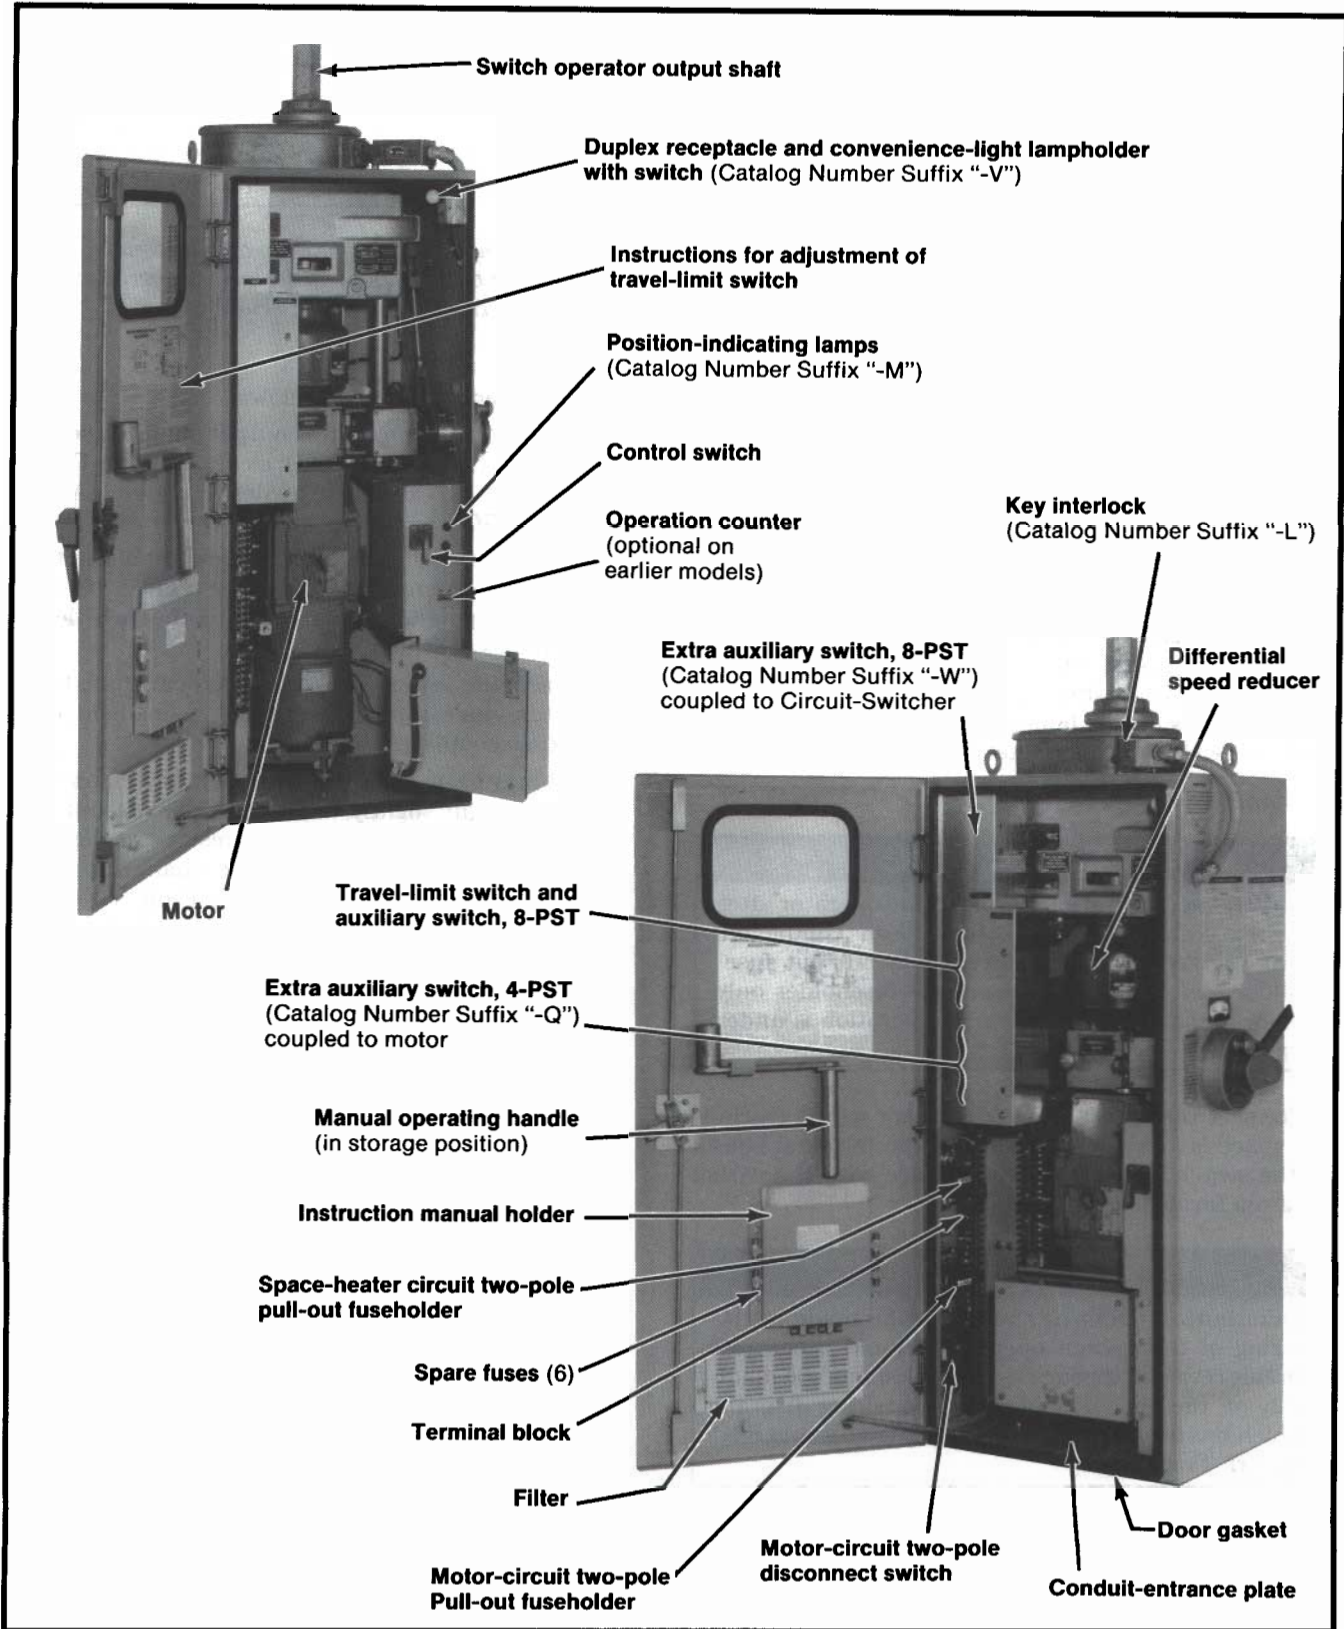
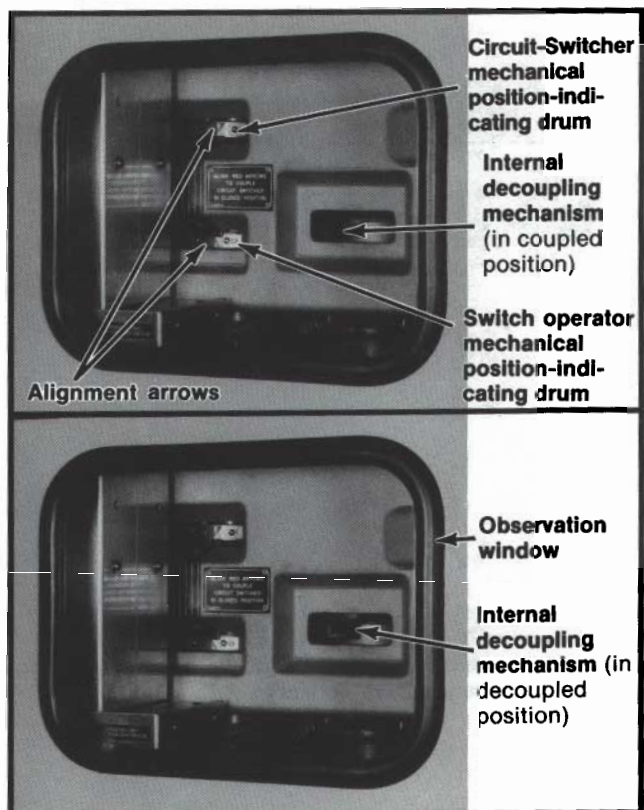

Figure 1. Internal views of switch operator.
Figure 3. Decoupling mechanism and mechanical position indicators.
Mark the conduit-entrance location for the control-circuit wiring on the conduit-entrance plate in the bottom of the switch operator enclosure. See Figure 1.
To avoid accidental energizing of the operator after the external connections have been completed, remove the motor-circuit two-pole pull-out fuseholder. See Figure 1. Reinsert the fuseholder only when preparation for electrical operation is under way.
It may be necessary to rotate the switch operator output shaft slightly to match its hexagonal faces with those of the coupling. As a result, the alignment arrow on the Circuit-Switcher mechanical position-indicating drum may be somewhat off-center with respect to the opening through which it appears. See Figure 3. Disregard this for the moment. After the travel-limit switch has been adjusted (Steps 9 and 10), the arrow may require a final centering, instructions for which are given in Step 12.
Visual inspection, through the observation window, will verify whether the internal decoupling mechanism is in the coupled or decoupled position. See Figure 3. The selector handle may be padlocked in either position.
To couple: Determine the position of the switch operator output shaft, and the switch operator motor and gear train, by observing the mechanical position-indicating drums which appear in the two openings inside the enclosure at the upper left. See Figure 3. The upper drum is coupled to the switch operator output shaft. The green and red arrows on this drum indicate open and closed positions, respectively, of the Circuit-Switcher. The switch operator motor and gear train can be coupled to the Circuit-Switcher power train when they are in the same relative position as indicated by the matching pairs of green or red arrows.
- The mechanical position-indicating drums for both Circuit-Switcher and switch operator show a matched pair of green alignment arrows for a Circuit-Switcher open position, or a matched pair of red alignment arrows for a Circuit-Switcher closed position. See Figure 3. Also note the position-indicating lamps, Figure 1, if furnished.